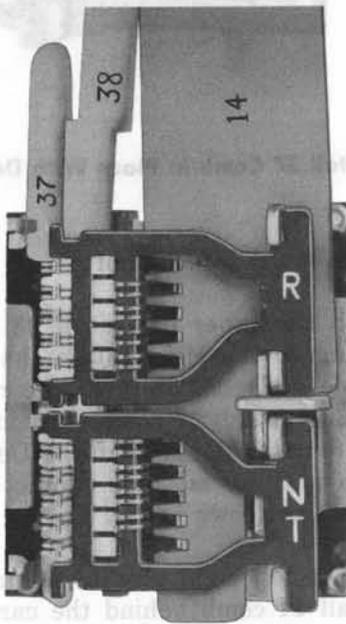

Fig. 9—Detail 14 Comb in Place With Detail 37 Comb and Detail 38 Comb Lifter
3.17 On the top right side of the relay, insert Detail 14 comb behind the cards, with the teeth of the comb facing to the left and the slot straddling the armature as shown in Fig. 9. The stop on the comb will come to rest on the top edge of the armature leg so that the movable springs align in pairs between the teeth of the comb.